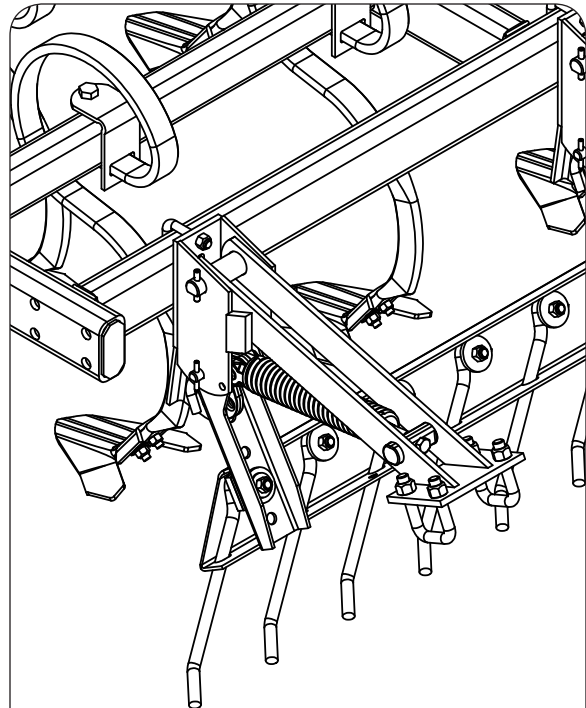

FIG. 2-22
2. The dimensions on the “Overhead Layouts” identify which holes must be used for mounting. The diagonal bars attach to the machine’s mounting arms using the 1/2”-13UNC x 3” carriage bolts (9388-110), two square washers (3788B), 1/4” thick flat washers (91069B), 1/2” washers (9405-088), and 1/2”-13UNC locknuts (9800) (Fig. 2-22). Often, this mounting hardware will not be assembled to the diagonal bar at the correct location shown by the layouts. Switch mounting hardware to the position shown on “Overhead Layouts” in this section.
3. Mount the diagonal bar to the MIDDLE hole on the machine’s mounting arms (Fig 2-22).